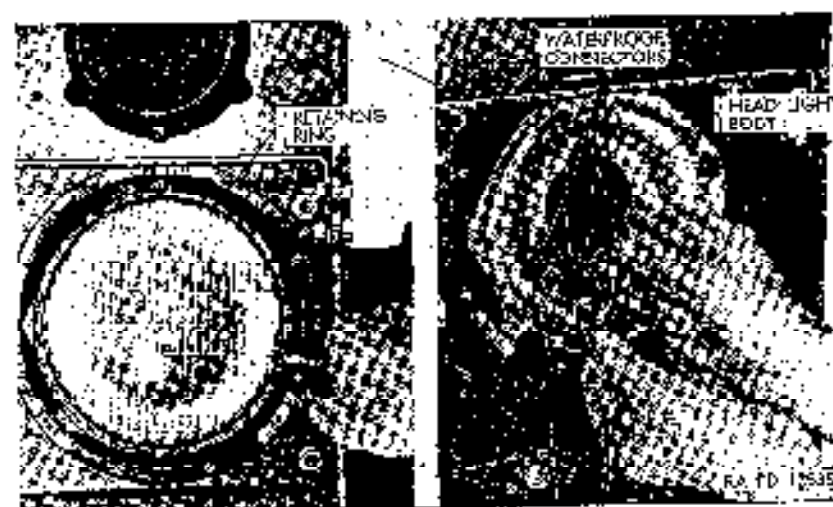

Figure 183. Reinstalling headlights retaining ring and sealed-beam lamp unit.
- (2) Remove three screws attaching retaining ring (fig. 183) to headlight body, and remove ring.
- (2) Position retaining ring (fig. 183), install three screws, and tighten.